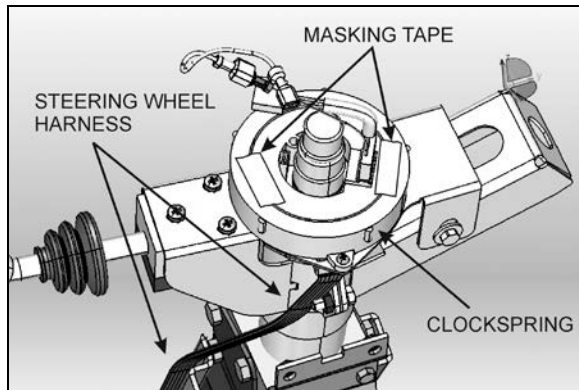

FIGURE 11: LOCKING THE CLOCKSPRING IN PLACE
7. Once the steering wheel is removed, it is important to block any rotating movement of the clockspring in order to prevent it from losing its neutral position. Use two pieces of masking tape to lock it in place (Fig. 11).